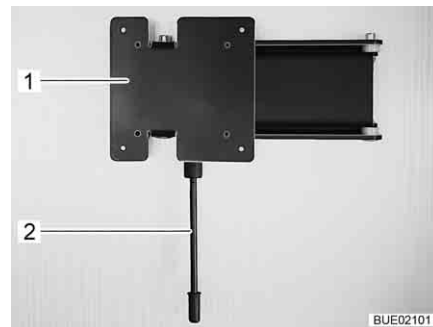

Fig. 76 Wall holder
- Pull down the release lever (Fig. 76,1) and turn the holder (Fig. 76,2) with the flat screen to the desired position.